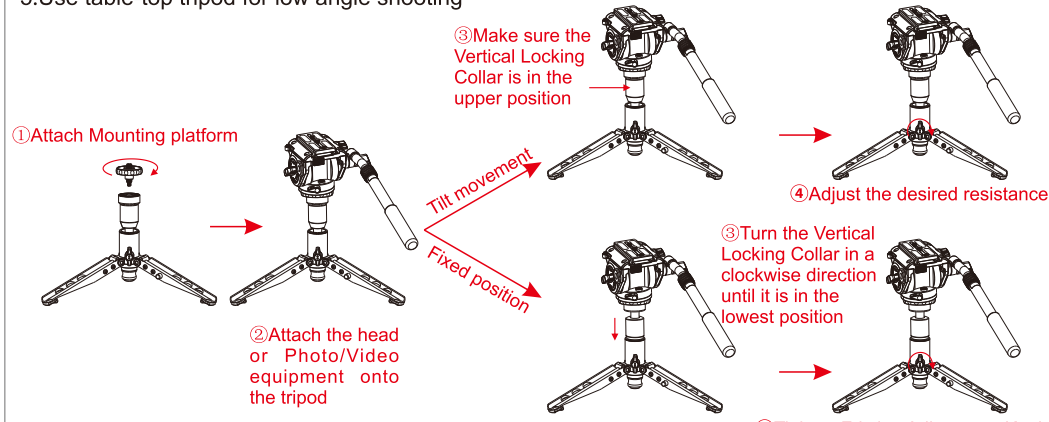

Figure 10
5. Use table-top tripod for low angle shooting (Figure 10)